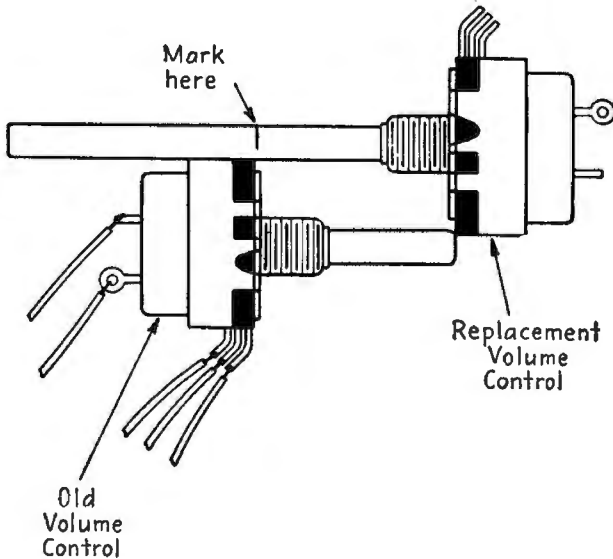

FIG. 11-11.—Measuring the replacement volume control for length.
- a. Measure it against the original as shown in Fig. 11-11 and mark the proper length.